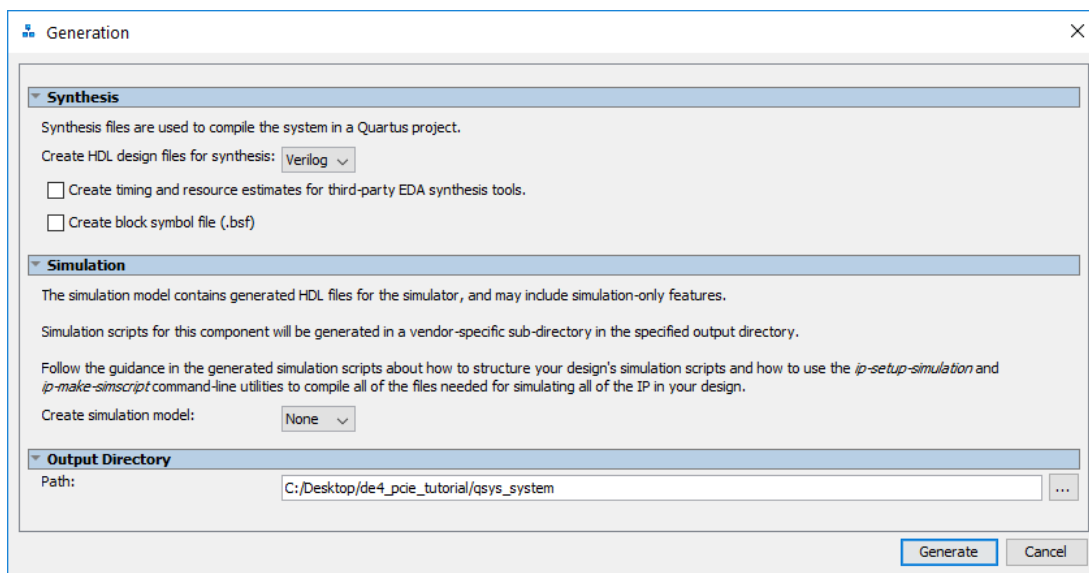

Figure 12. The Platform Designer Generation tab.
1. Select **Generate > Generate HDL**, uncheck the **Create block symbol file (.bsf)** in the **Synthesis** section as shown in Figure 12.